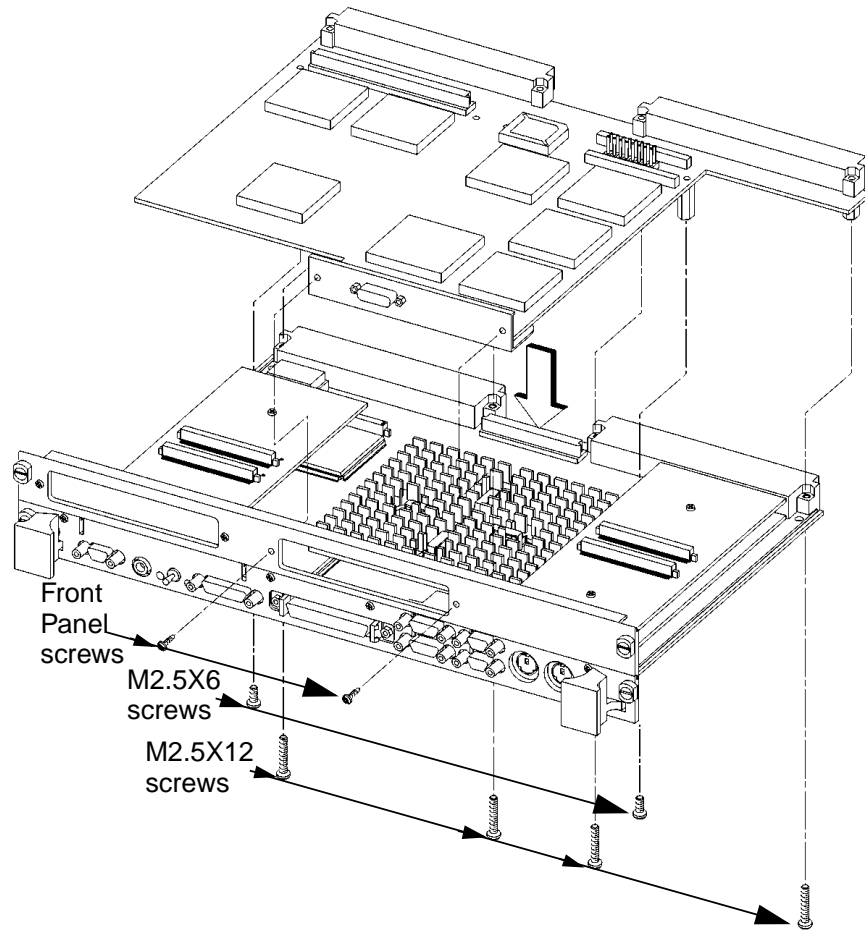

Figure 2-5 **Installing an HCRX Graphics Board**
- 1 Place the HCRX board on the board computer, lining up the screw holes for the M2.5x12 and M2.5x6 screws as shown in Figure 2-5.